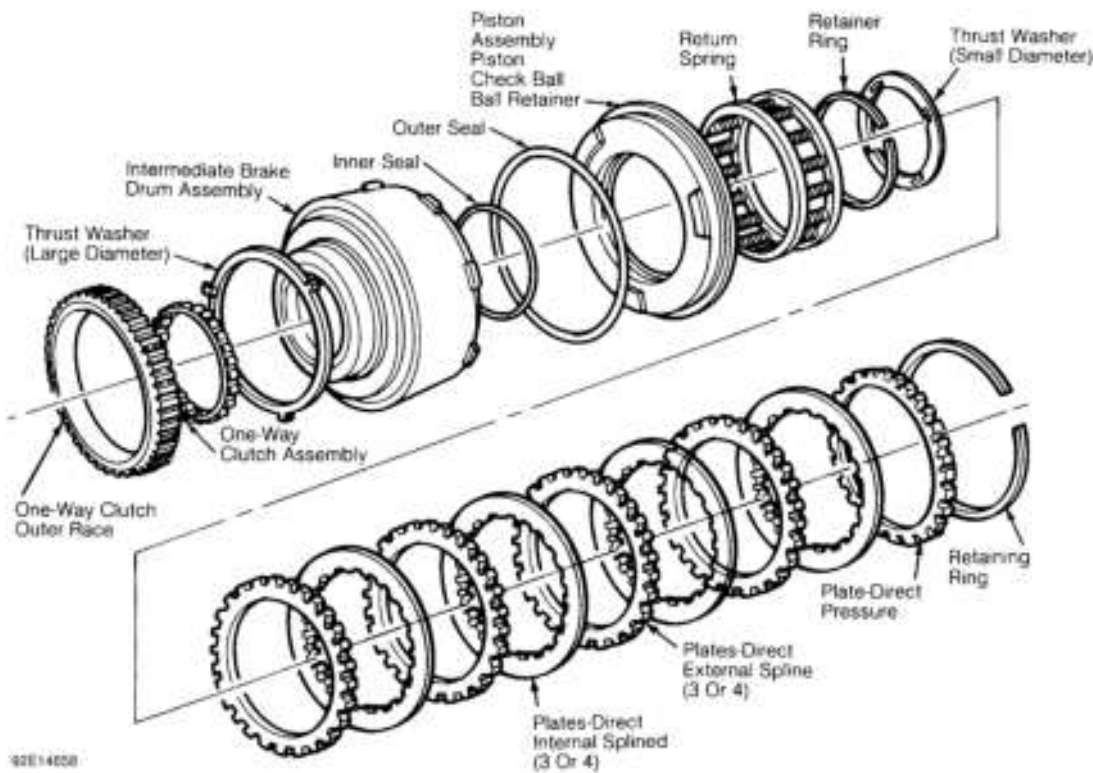

Fig. 16: Exploded View Of Intermediate Brake Drum
1. Remove outer race, one-way clutch and top end cap. Remove large brass thrust washer from rear face of cylinder. Remove small brass thrust washer from front face of cylinder. See **Fig. 16**.